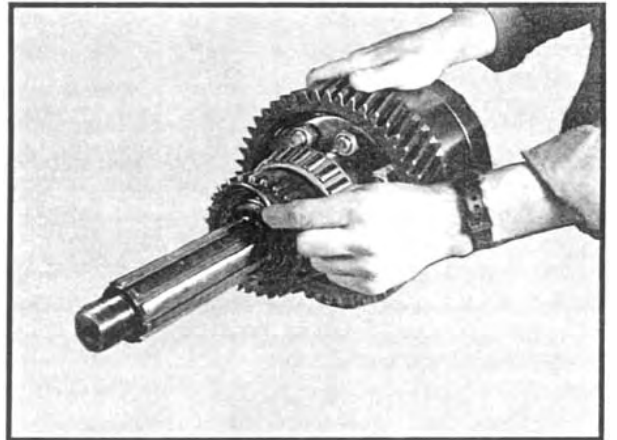

Fig 48
7. Assemble the two differential case halves together and install the (12) bolts. Torque to specification.
8. Install the retaining ring on the front output shaft. See Figure 48.